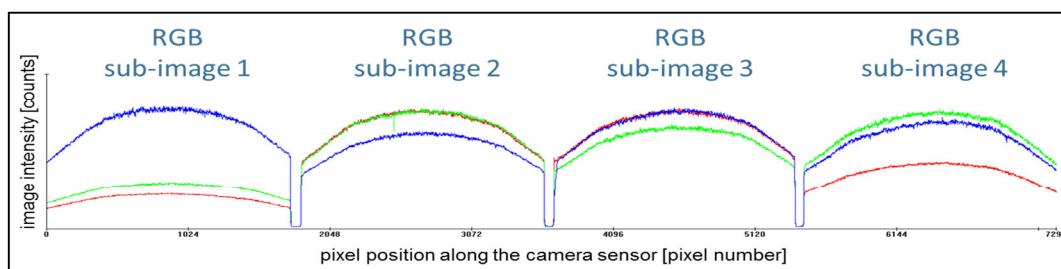

Figure 33: RGB sub-images after setting the “target white reference values”
- 10) After the adjustment, the signal should look like Figure 33. The RGB sub-images should have the same maximum value  $y_{new} = 200$ .